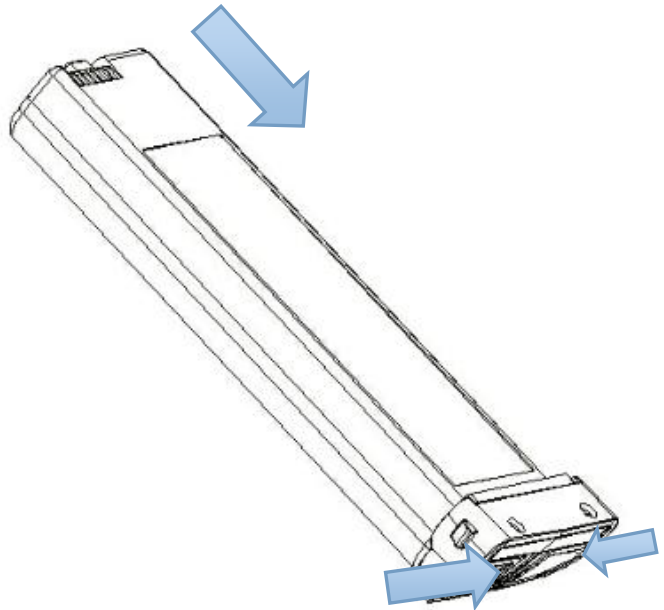

Figure 1
- Use two finger pressing on the bottom and detach the battery from the device. See Figure 1.